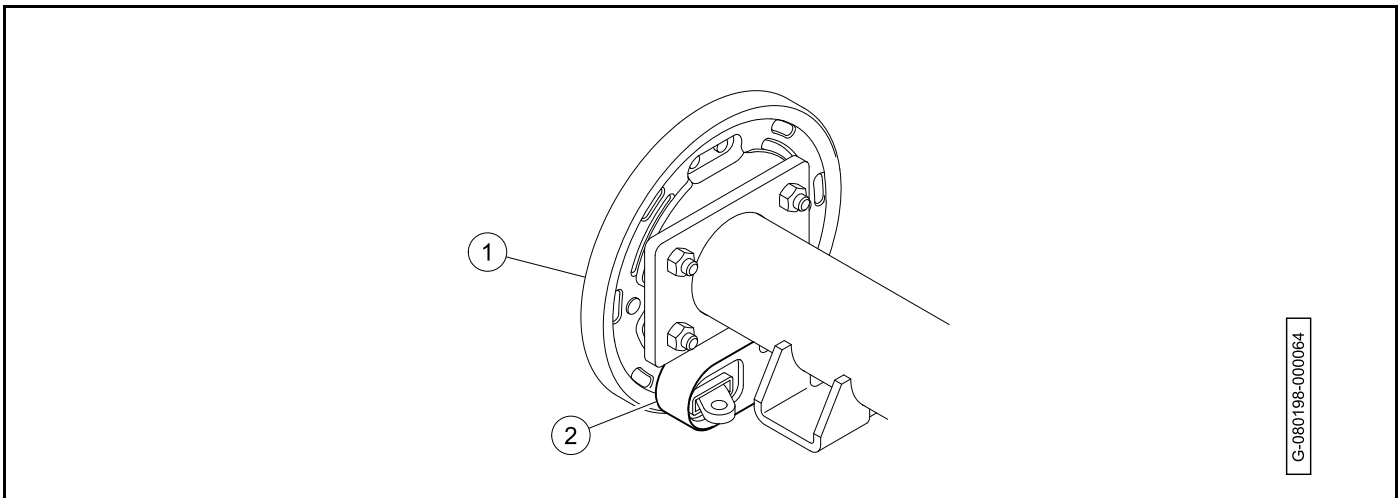

Figure 6-6
1. Carefully clean the brake backing plate (1) and all of its mechanical components (**Figure 6-6**).